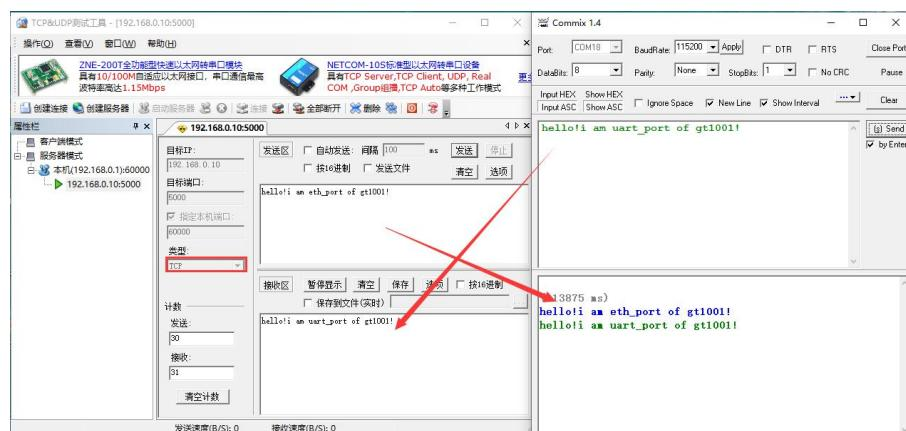

Figure 6-14 TCP Client Mode Communication Interface
4) that module, as a client, actively send a connection application to the computer to establish a connection, and after the connection is opened, communication can be directly carried out, The interface is shown in Figure 6-14.